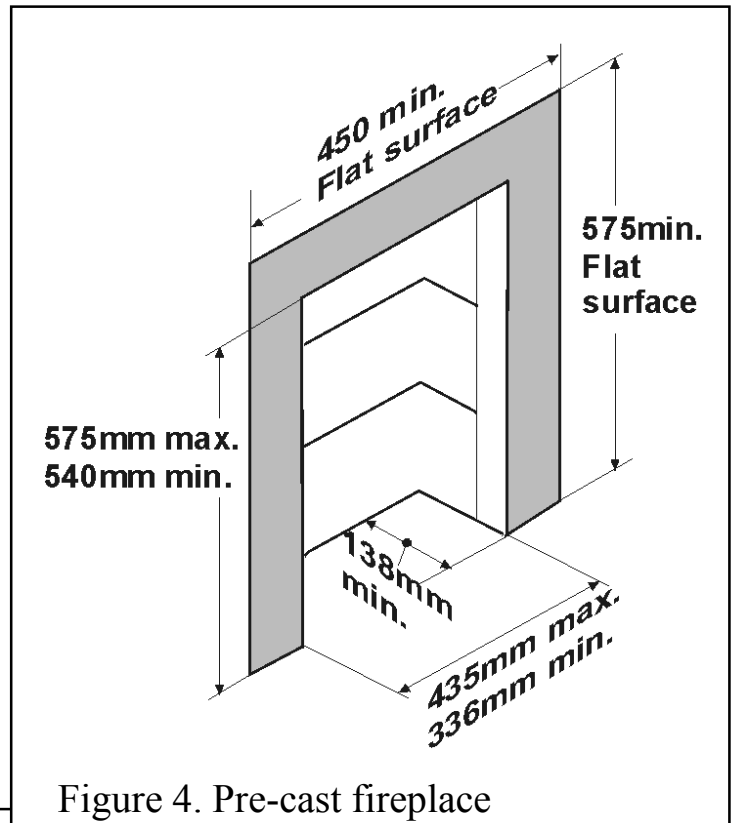

Figure 4. Pre-cast fireplace
5.9.2 To a fireplace that has a precast concrete or clay flue block system conforming to BS1289 or BS EN 1806. The appliance is suitable for installations conforming to older versions of BS1289 as well as the current edition. The flue blocks must have a minimum width not less than 63mm and a cross-sectional area not less than  $13,000\text{mm}^2$ . Older editions of BS1289 required a cross-sectional area of  $13,000\text{mm}^2$ . The current revision of the standard requires  $16,500\text{mm}^2$ . This appliance is suitable in both cases. The total depth of the opening measured from the finished front of the fireplace (Including plaster, surround etc.) must be **not less than 138mm**. See figure 4.